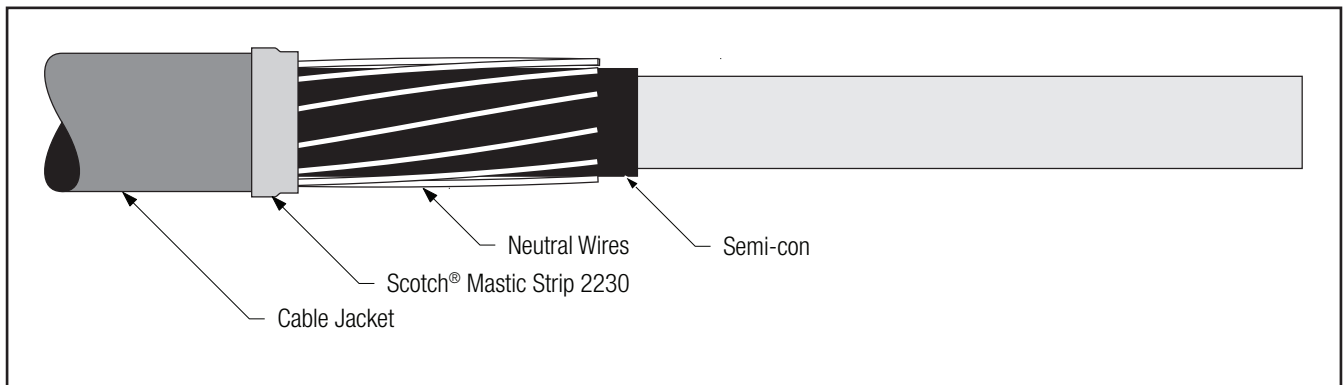

Figure 2
- 2.4 Select a Scotch® Mastic Strip 2230 from the kit and remove white release liners. Using light tension, apply a **single wrap** of mastic at the edge of the cable jacket and partially over the neutral wires. (Figure 2).